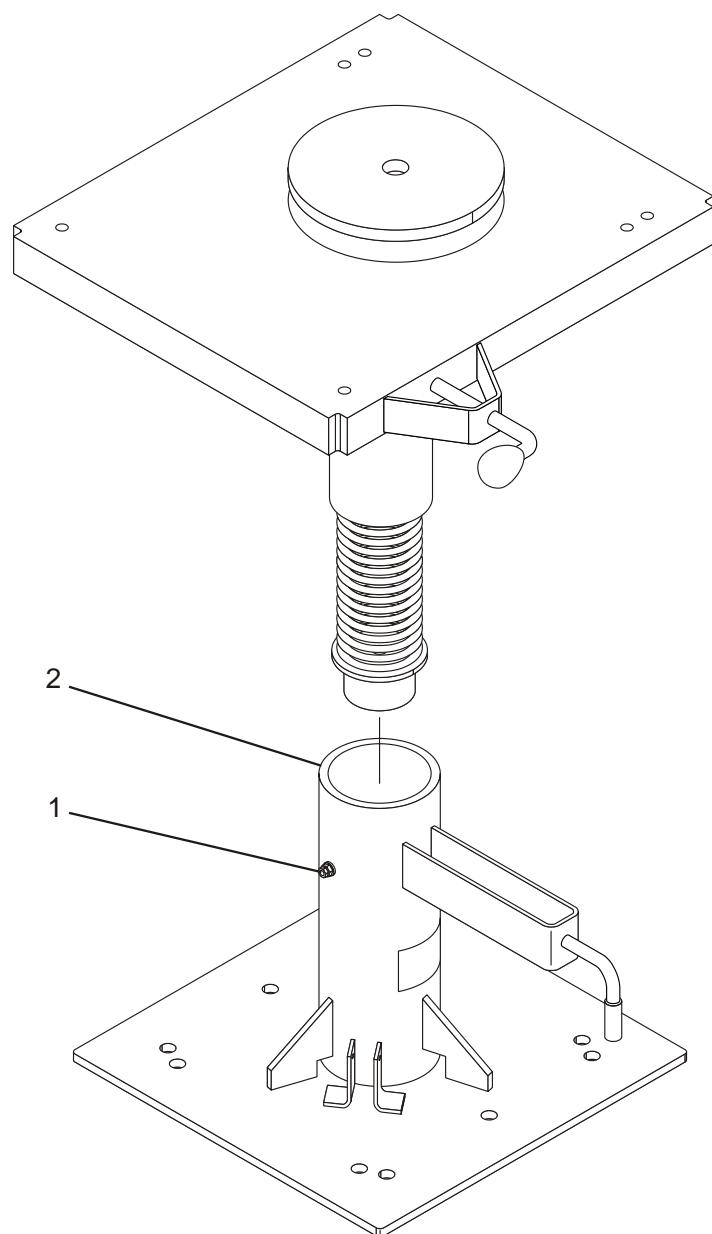

Figure 6-1: Lubricate Baseplate Tube of Operator's Seat
1. With the base in the lowest position, apply Lubriplate 110 through the grease fitting (1) until it comes out the top of the baseplate tube (2). See Figure 6-1.